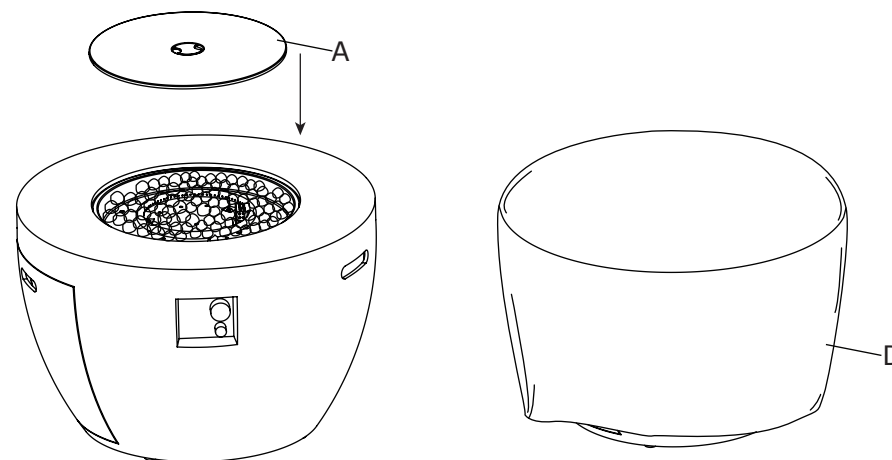

Figure 5
5. Once the firepit has cooled completely after use, carefully place the lid (A) onto the fire bowl and use the weather cover (D) to protect your fire pit from the elements (See Figure 5).